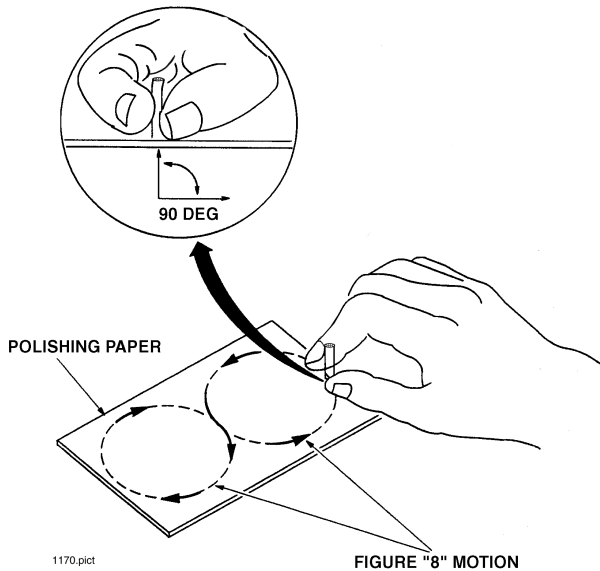

Figure 1. The pattern and orientation of the optical fiber during polishing.
4. Place the 2000-grit polishing paper on a hard flat surface, wet the paper with a light liquid. Polish the end of the fiber in a "figure 8" pattern as shown in Figure 1. Repeat the pattern while holding the fiber at a 90° or perpendicular angle to the polishing surface. Supporting the fiber against a flat object, such as a small wooden block, during polishing will aid in obtaining a good flat termination.
7. Place the 3 μm polishing paper on a hard flat surface, wet the paper with a light liquid. Polish the end of the fiber in the same "figure 8" pattern, as shown in Figure 1.